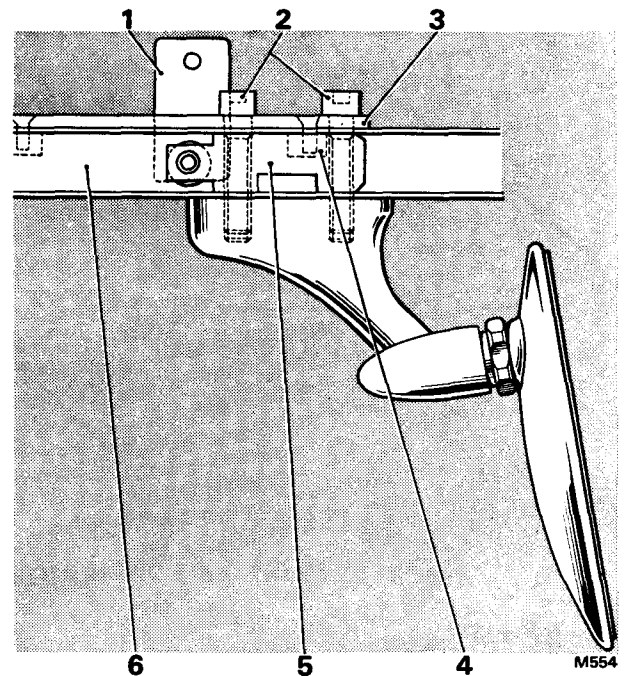

FIG. S129 METHOD OF FITTING A FIXED DRIVING MIRROR TO THE FRONT DOOR (Early 4-Door Saloon and Long Wheelbase Cars)
7. Drill out and remove the rear hank bush (see Fig. S129).
8. Position the tapping block in the channel and fit the frame to waist connector; the two assemblies are located by a new setscrew which passes through the connector and channel frame and screws into the front (underside) of the tapping block (see Fig. S129).